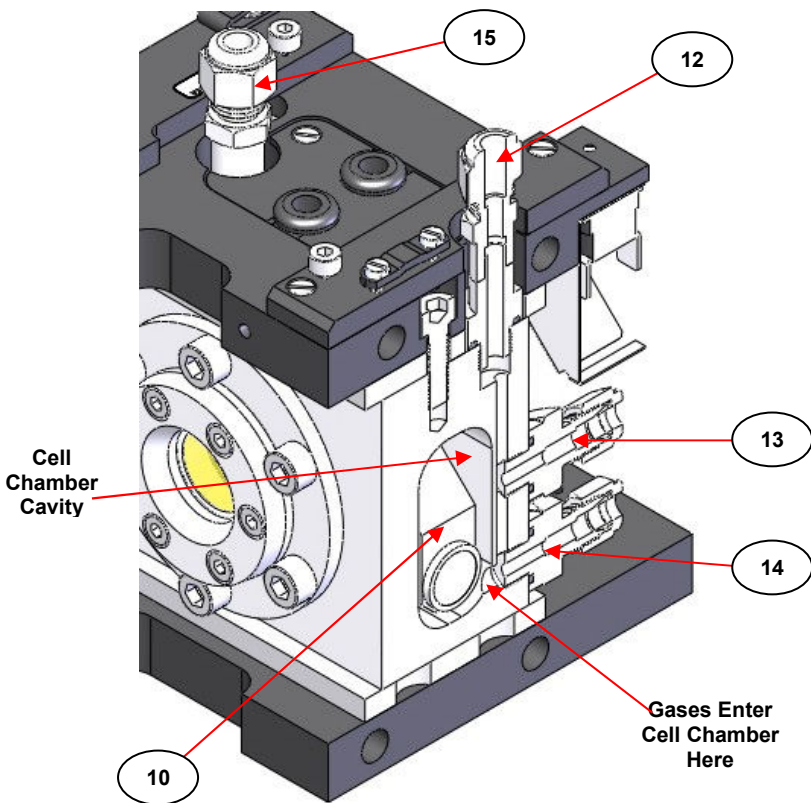

Fig 6. Cross Sectional Cutaway View of Inlet Ports Merging
- (12) The main **inlet port 1** on top of the HTHP Cell body (3).
- (13) An **inlet port 2** on the side of the HTHP Cell body (3).
- (14) An **inlet port 3** on the side of the HTHP Cell body (3).
- (15) The main **outlet port** on top of the HTHP Cell body (3).
The outlet port (15) opens into the top of the cell chamber, while the other three inlet ports (12, 13 and 14) connect with each other internally and open, in one place, near the bottom of the cell chamber. A cross sectional view at **Fig 6**. shows how these inlet ports merge.